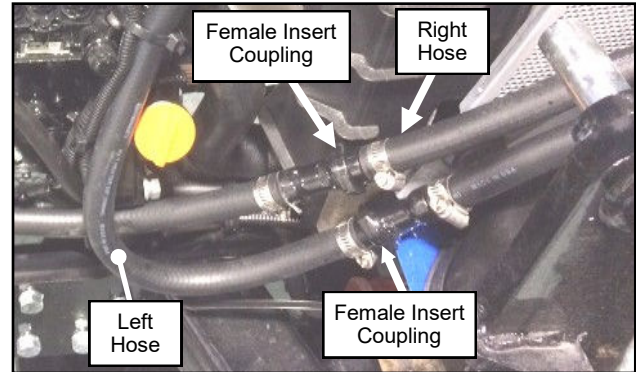

Fig. 17.3 (Heater Hose Disconnects, Outside of Cab)
- 17.3** Slide 1" hose clamp and Female Insert In-Line Coupling onto the right hose outside the cab and tighten down hose clamp onto hose/barb of in-line coupling. See figure 17.3
- 17.4** Slide 1" hose clamp and Male Insert In-Line Coupling onto the left hose outside the cab and tighten down hose clamp onto hose/barb of in-line coupling. See figure 17.3
- 17.5** Connect the mating in-line couplings to the previously installed couplings. Cut 51 inches of heater hose, install hose and 1" hose clamp onto the right side hose coupling and run hose towards the front of the vehicle using figures 17.3 and 17.6 as reference. With remaining heater hose, install hose and 1" hose clamp onto the left side hose coupling. Again using figures 17.3 and 17.6 for suggested routing.